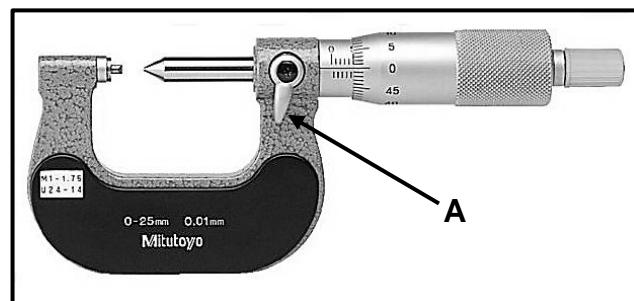

FIGURE 4.6
4.6 Identify part **A** of the screw thread micrometer shown in FIGURE 4.6 below.